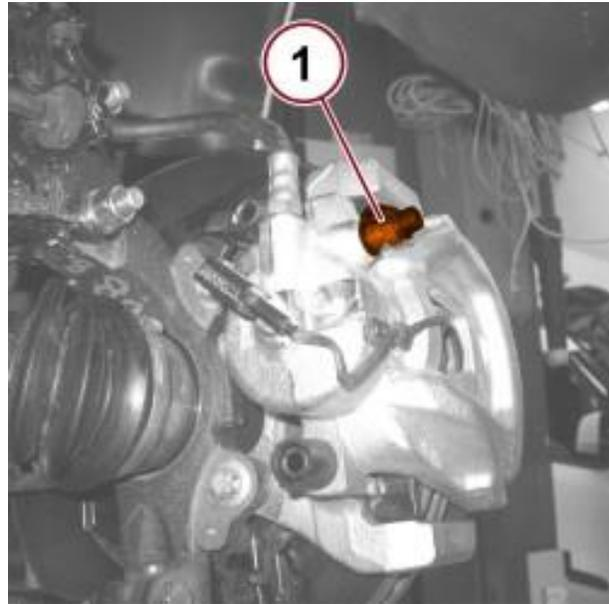

Figure 17 – ABS Bracket Assembly
23. Remove the protection cap (1), connect the recovery device and open the bleed valve on the brake calipers.
25. Close the bleed valve on the brake caliper and tighten to 10 N·m (89 in. lbs.) (Figure 17).